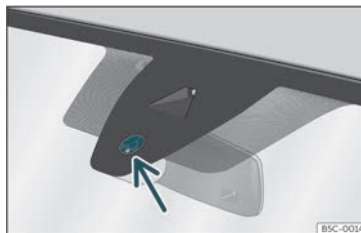

Fig. 101 Rain sensor sensitive surface
Possible causes of faults and mistaken readings on the sensitive surface >>> Fig. 101 of the rain sensor include:
- Regularly clean the sensitive surface of the rain sensor»» Fig. 101 (arrow) and check for possible damage to the wiper blades.